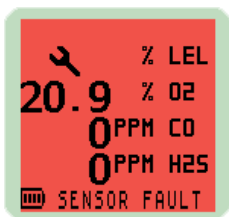

Fig. 4-8 Sensor Fault
1) If a "SENSOR FAULT" warning and a spanner symbol appears adjacent to a gas type, as illustrated in Fig. 4-8, then the sensor requires replacement or an electrical fault exists. Return instrument to an approved Service / Repair facility.